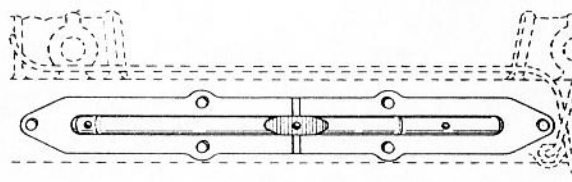

Fig. 11 Steering box location bolt in central position.
1. Detach the steering box cover by removing the six nuts and spring washers, and ensure that the locating bolt is centralised in the guide slot, see Fig. 11.